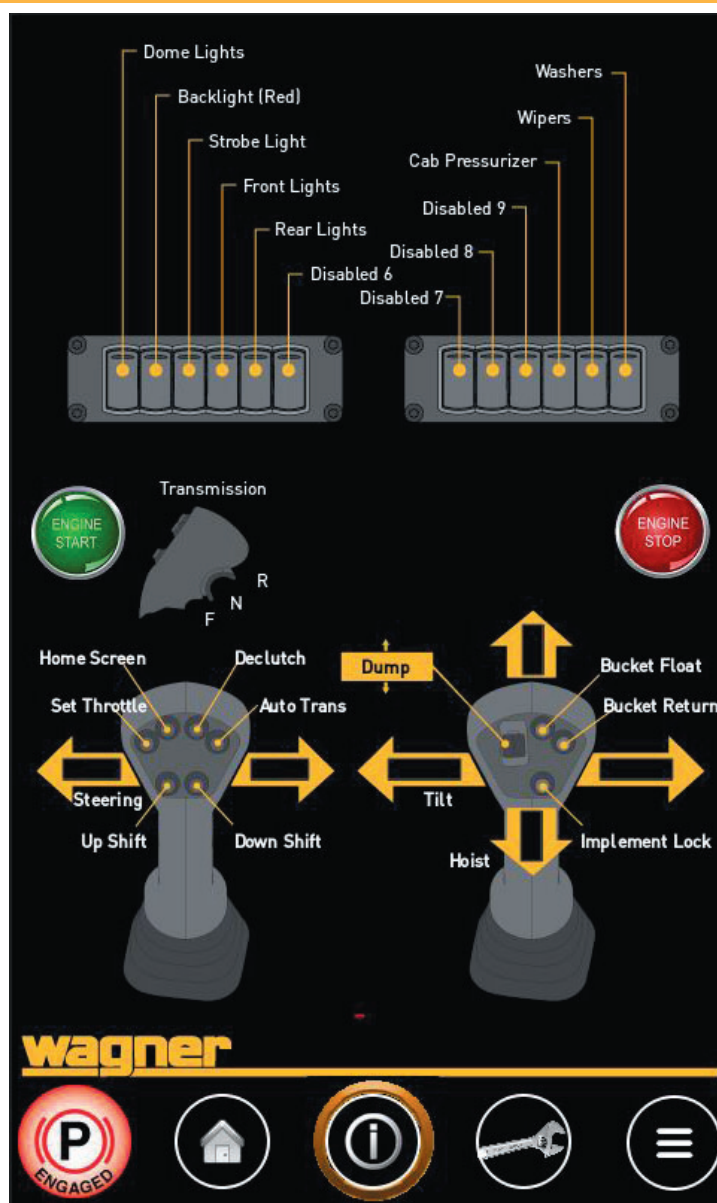

Figure 2-2-4 Information Screen
Press this button to display the information screen. See Figure 2-2-4.
Press the Information button icon (item 27) to access the Information Screen. The Information screen contains reference information for the operator. The functions of the joysticks and overhead buttons are listed for reference. See Figure 2-2-4.